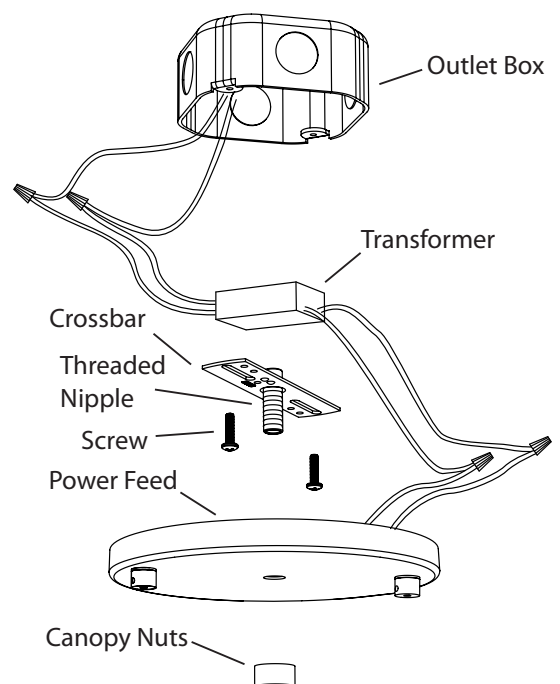

Fig. 2
Shallow Power Feed Installation (Fig. 2):
8. Flip **Wing Tabs** inward so that the Minibox will fit into the drywall opening (Fig. 2).
11. Flip **Wing Tabs** inward so that the Minibox will fit into the drywall opening (Fig. 2).
12. Slide **O-rings** along **Mounting Screws** so that they are flush against the **Wing Tabs** (Fig. 2).